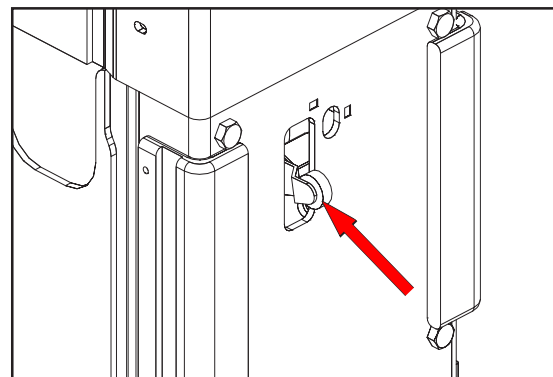

Figure 5-34. Limit Switch Installation Procedure
3. To avoid the limit switch impacting the mast 2 when lowering, press the limit switch arm inward as mast 2 is lowered. See Figure 5-34.